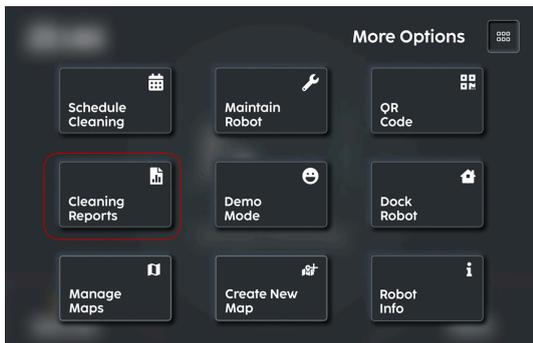

FIGURE 7-15
2. Select the 'Cleaning Report' button (Fig. 7-15).